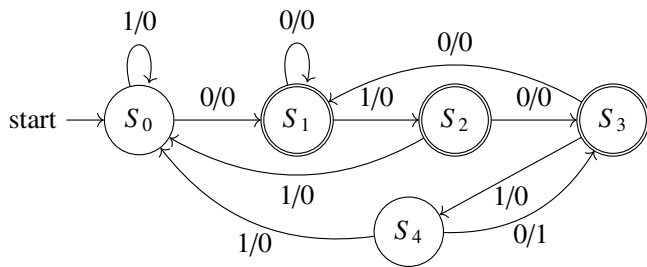

Fig. 6.3
1. The state diagram of a sequence detector is shown in Fig. 6.3. State  $S_0$  is the initial state of the sequence detector. If the output is 1, then (GATE EC 2020)